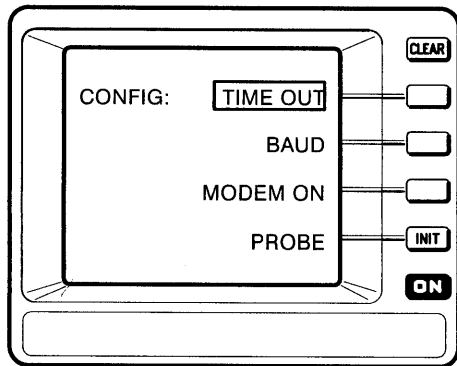

Figure 3-19: The Configuration Menu
- Step 2:** Press the menu button next to **CONFIG** to access the configuration menu. Figure 3-19 shows the configuration menu.